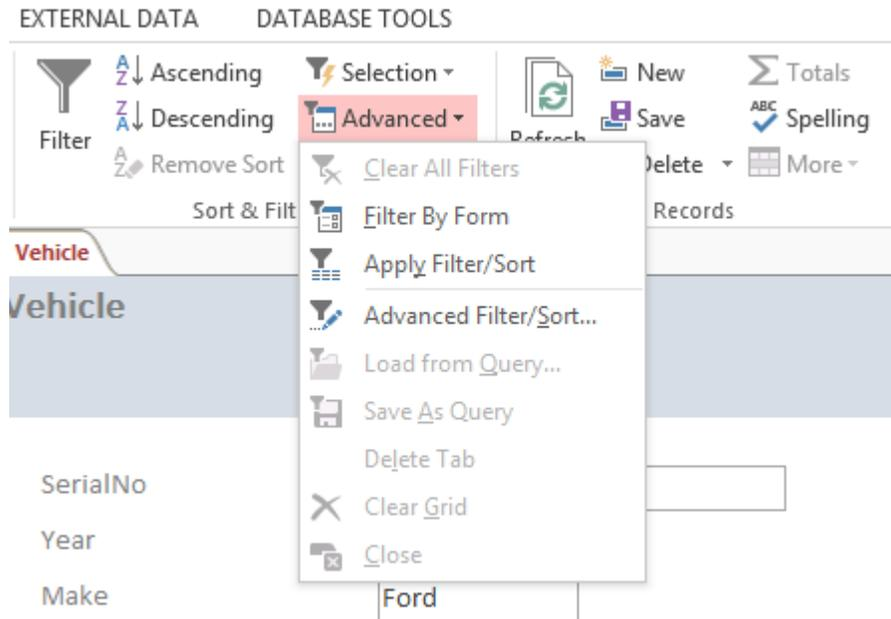

Figure 30: Advanced Menu in the Sort & Filter Group of the Ribbon
2. Activate the Filter: To activate the filter tool, select **Home** → **Advanced** → **Filter By Form** (Figure 30) in the Sort & Filter group of the Ribbon. The fields become blank except for the *Make* and the *Model* fields, as depicted in Figure 31. The bottom of the window contains tabs titled Look for and Or.
Note: Each set of **Or** criteria you select is stored. Click any **Or** tab to see that tab’s criterion displayed in the field. If you need to delete a criteria, you must delete that tab by **Home → Advanced → Delete Tab** (Figure 30) in the Sort & Filter group of the Ribbon. Alternatively, you click the right mouse button outside of the form and select the **Delete Tab** command.